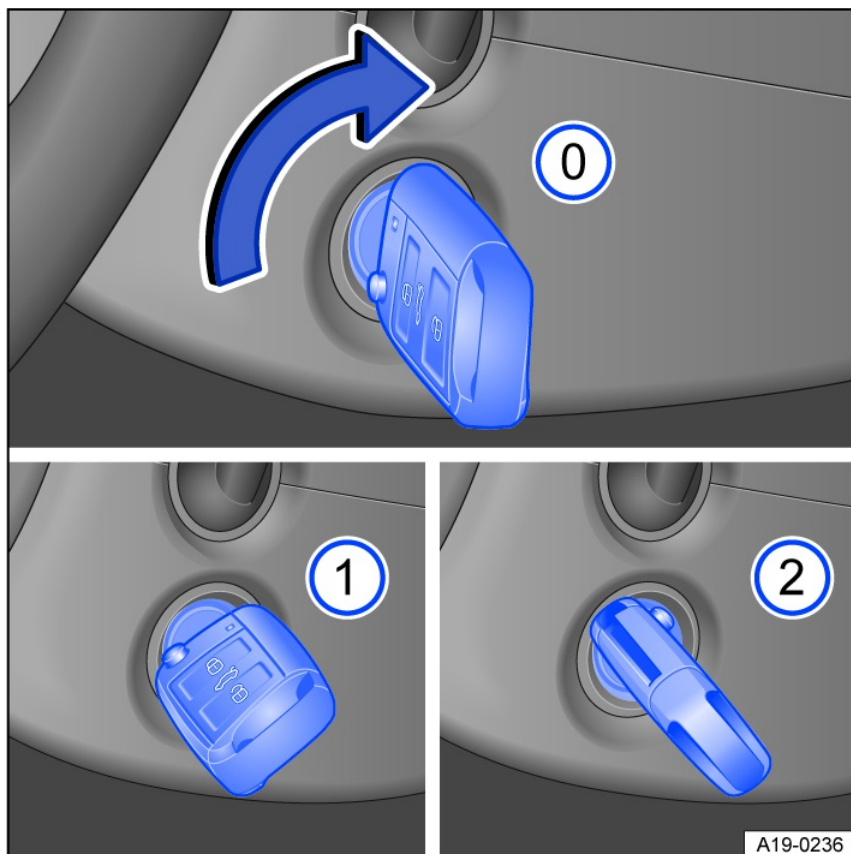

Fig. 110 Next to the steering wheel on the right side: positions of the vehicle key in the ignition lock.
Vehicle key positions *fig. 110*:
- ① The ignition is switched off. The vehicle key can be removed.
- ① The ignition is switched on. The steering lock can be released.
- ② Press the brake pedal when the  indicator light is green. Start the engine. Release the vehicle key once the engine has started. The vehicle key returns to the position *fig. 110* ① once it is released.